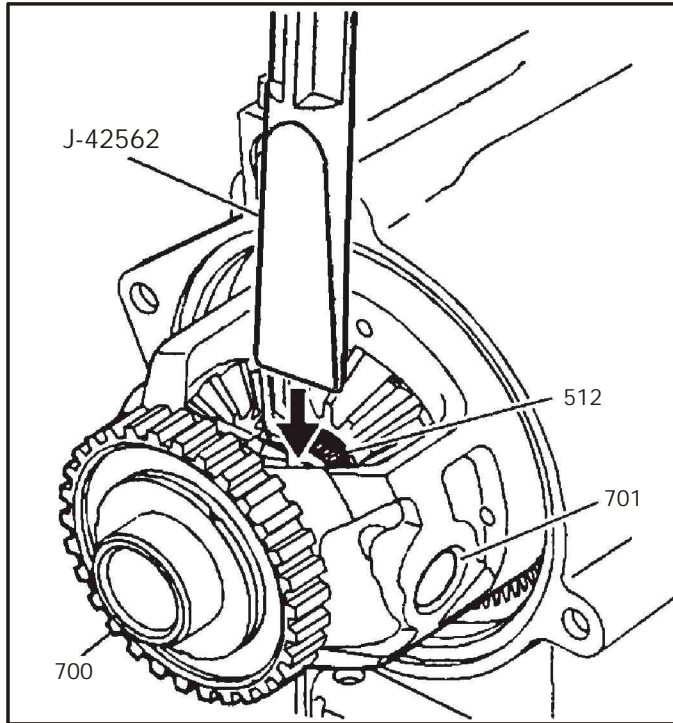

Figure 54
3. Rotate the differential carrier until the end of the output shaft can be seen and the differential cross shaft is in a horizontal position, as shown in Figure 54.
4. Place J-42562 Axle Removal Wedge between the end of output shaft and cross shaft as shown in Figure 54.
5. Using a hammer, hit the end of the J-42562 axle removal tool to compress the output shaft compression ring (512) and push the output shaft through the differential side gear. Refer to Figure 54.